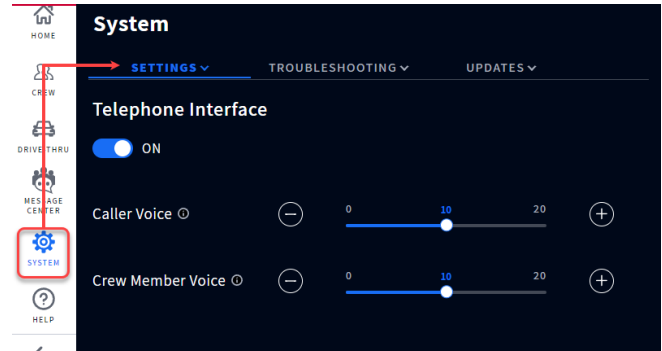

Fig. 11.4
2. Log in to the NEXEO base station and go to **SYS-TEM>SETTINGS**. Select Telephone Interface from the drop-down list, see Fig. 11.4. Toggle the OFF switch ON. The recommended default values are set to 10. If necessary, the volume levels can be adjusted using the sliders.